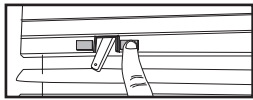

Figure 4.1; (Optional) Build out Header
The blind mount must have a secure connection to the header. Based on the results of the two tests [Fig. 3.3 and Fig. 3.4], it may be necessary to add the supplied EXTRA ADHESIVE STRIPS (F) to your blind's header to build the mounting attachment outward [Fig. 4.1].